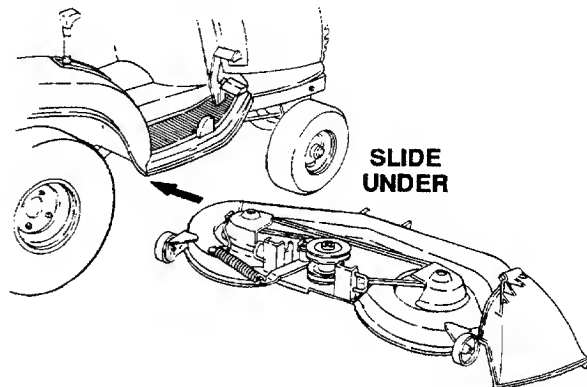

Figure 45
3. Refer to Figure 45 and position the deck on the right side of the tractor with the front of the deck facing toward the front of the tractor. Raise the tractor implement lift handle to its highest setting and slide the deck under the tractor.